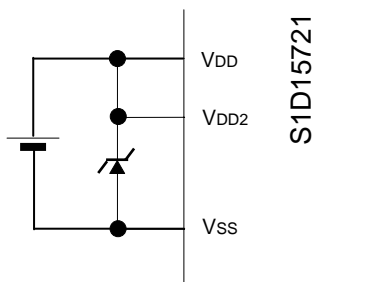

Fig.6.12 The example made into VDD=VDD2
- Connecting the zener diode between VDD2 and VSS (Fig.6.12)